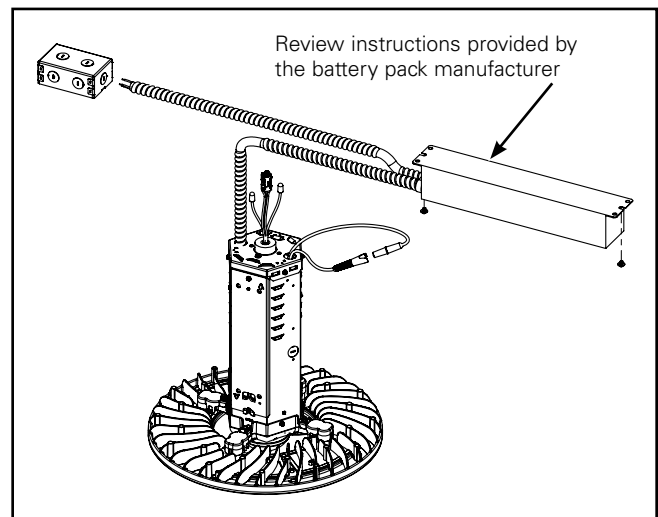

Figure 5.
1. Mount fixture and remote battery pack (use hardware appropriate for the structure the battery is installed, not provided with the fixture) (Figure 5).